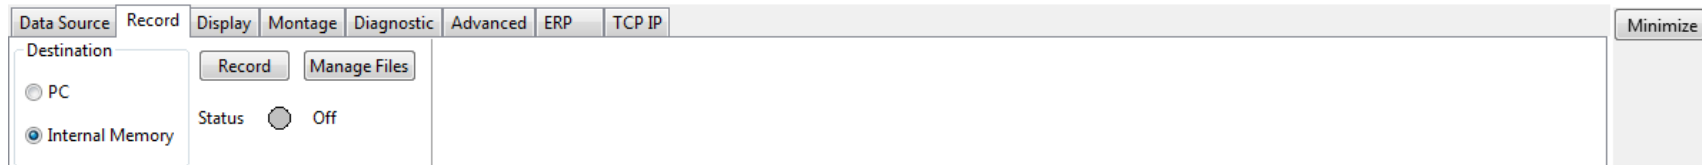

Figure 19 – Record tab with option for writing data to EEG headset internal memory selected.
As above, once data is streaming from the EEG system, data can be recorded by selecting the **Record** tab in the main window (Figure 19).
- The recording options shown to the right of the radio buttons in Figure 19 will automatically appear.